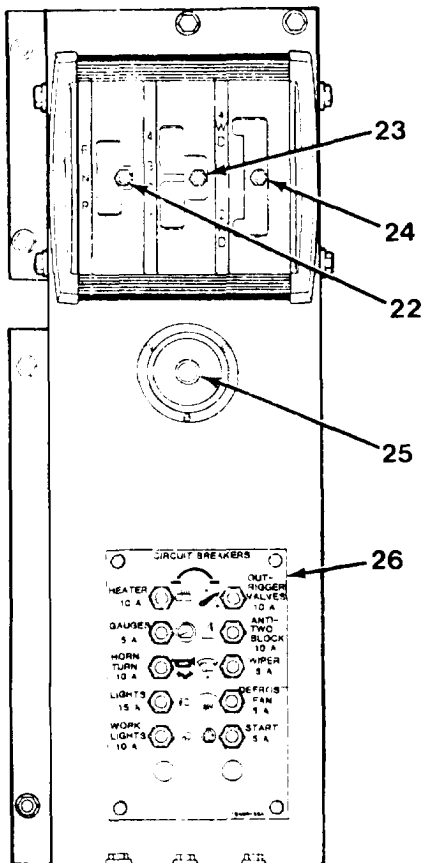

Figure 4-7. Right Hand
22. **Forward-Neutral-Reverse Shift Lever** selects direction of travel. Must always be in neutral when starting engine and making crane lifts (Figure 4-7),